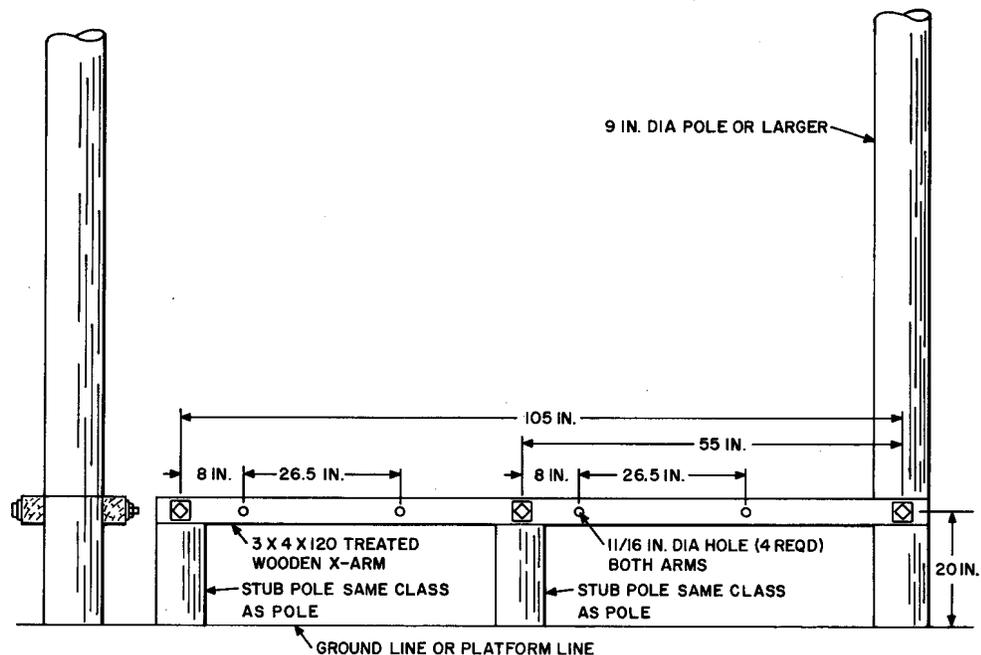

Fig. 10—Fixture for Double Cabinet Installation
3.23 The procedure for constructing a crossarm fixture for a double cabinet (Fig. 10) is as follows:
- (a) Set two 7-foot stub poles, of the same class as the existing pole, 5 feet into the ground at the location shown in Fig. 10.
- (d) Drill 11/16-inch diameter holes for 5/8-inch suspension bolts in each 2- by 4- by 120-inch crossarm, as shown in Fig. 10, for attaching to stub and pole.
(f) Drill 11/16-inch diameter holes for 5/8-inch suspension bolt on 26-1/2 inch centers in the crossarm, as shown in Fig. 10.